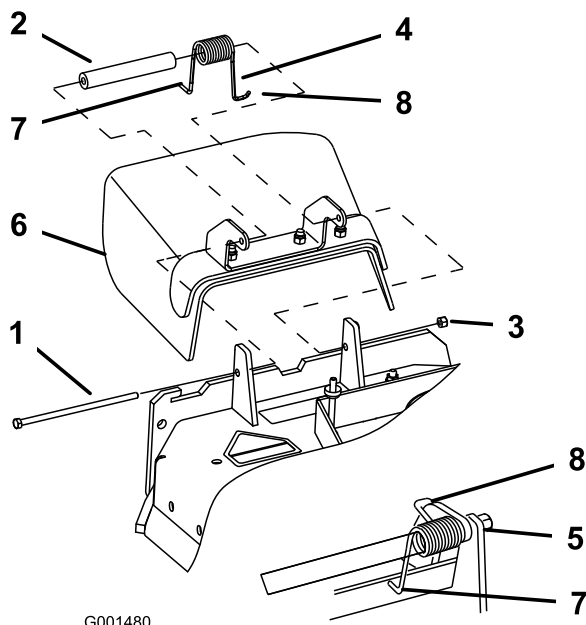

Figure 70
1. Remove the locknut, bolt, spring and spacer holding the deflector to the pivot brackets (Figure 70). Remove damaged or worn grass deflector.
Note: Make sure the **L** end of spring is installed behind deck edge before installing the bolt as shown in Figure 70.
- Install bolt and nut. Place the **J** hook end of spring around grass deflector (Figure 70).